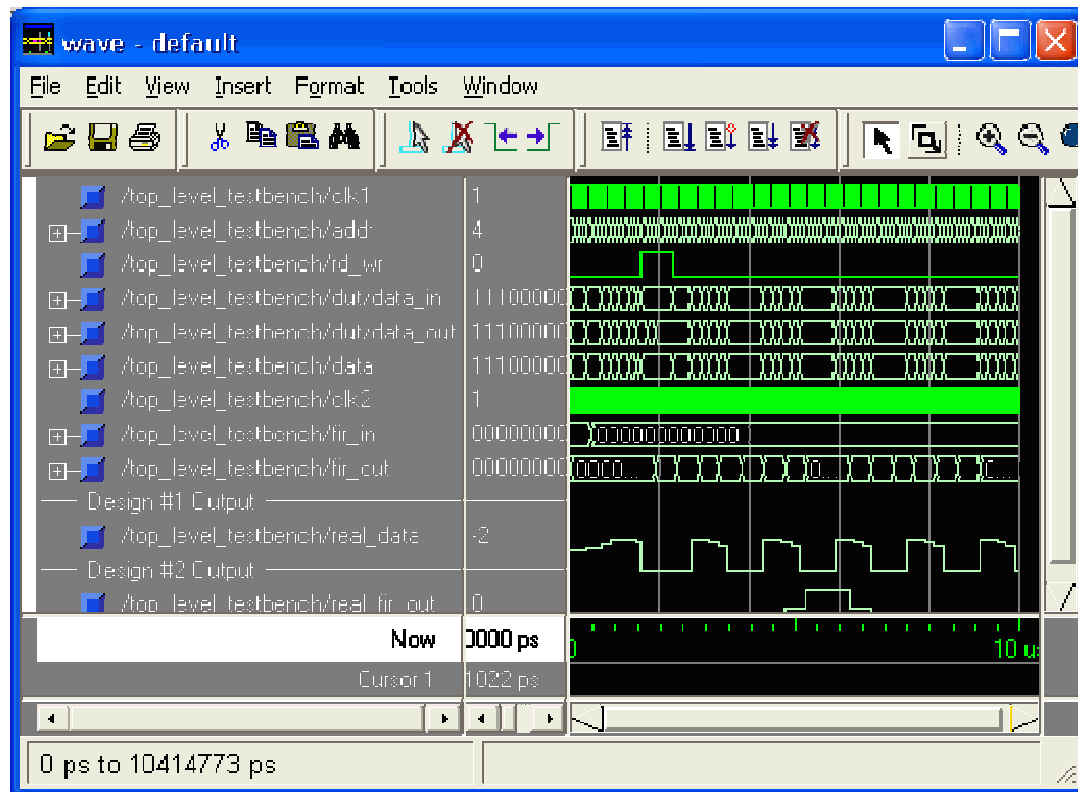

Figure 6: ModelSim Waveform
5. To simulate the top_level design, double left click on the Simulate Behavioral Model process. The ModelSim .do file compiles the VHDL code and runs the simulation for 10000 ns. The resulting waveform is shown in Figure 6.